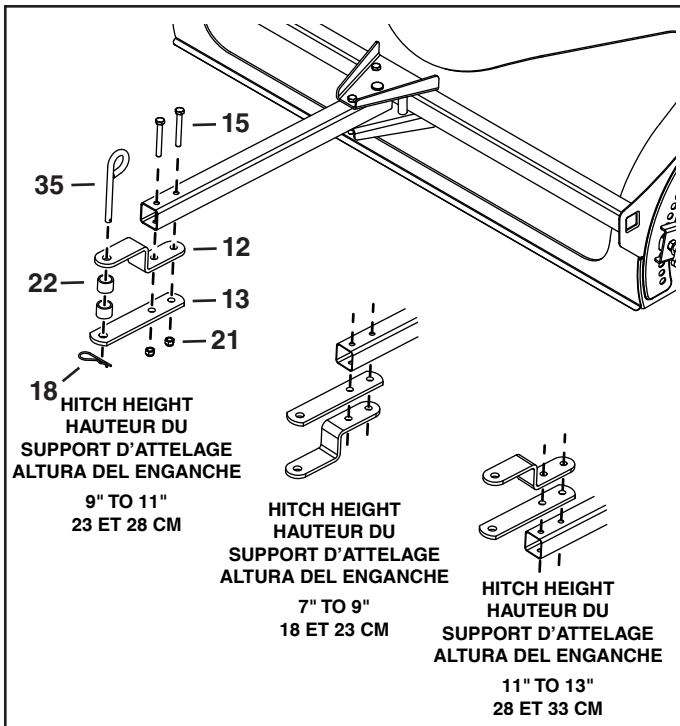

FIGURE 6
- Measure the distance from the tractor hitch to the ground. Arrange the hitch brackets as shown in figure 6 according to your tractor's hitch height.
- Attach the bent hitch bracket (12) and straight hitch bracket (13) to the drawbar using two 5/16" x 2-1/2" hex bolts (15) and 5/16" nylock nuts (21). See figure 6.
- Assemble a 3/8" x 3" hitch pin (35) and two 3/4" spacers (22) to the hitch brackets. Secure them in place with a large hairpin cotter (18). See figure 6.